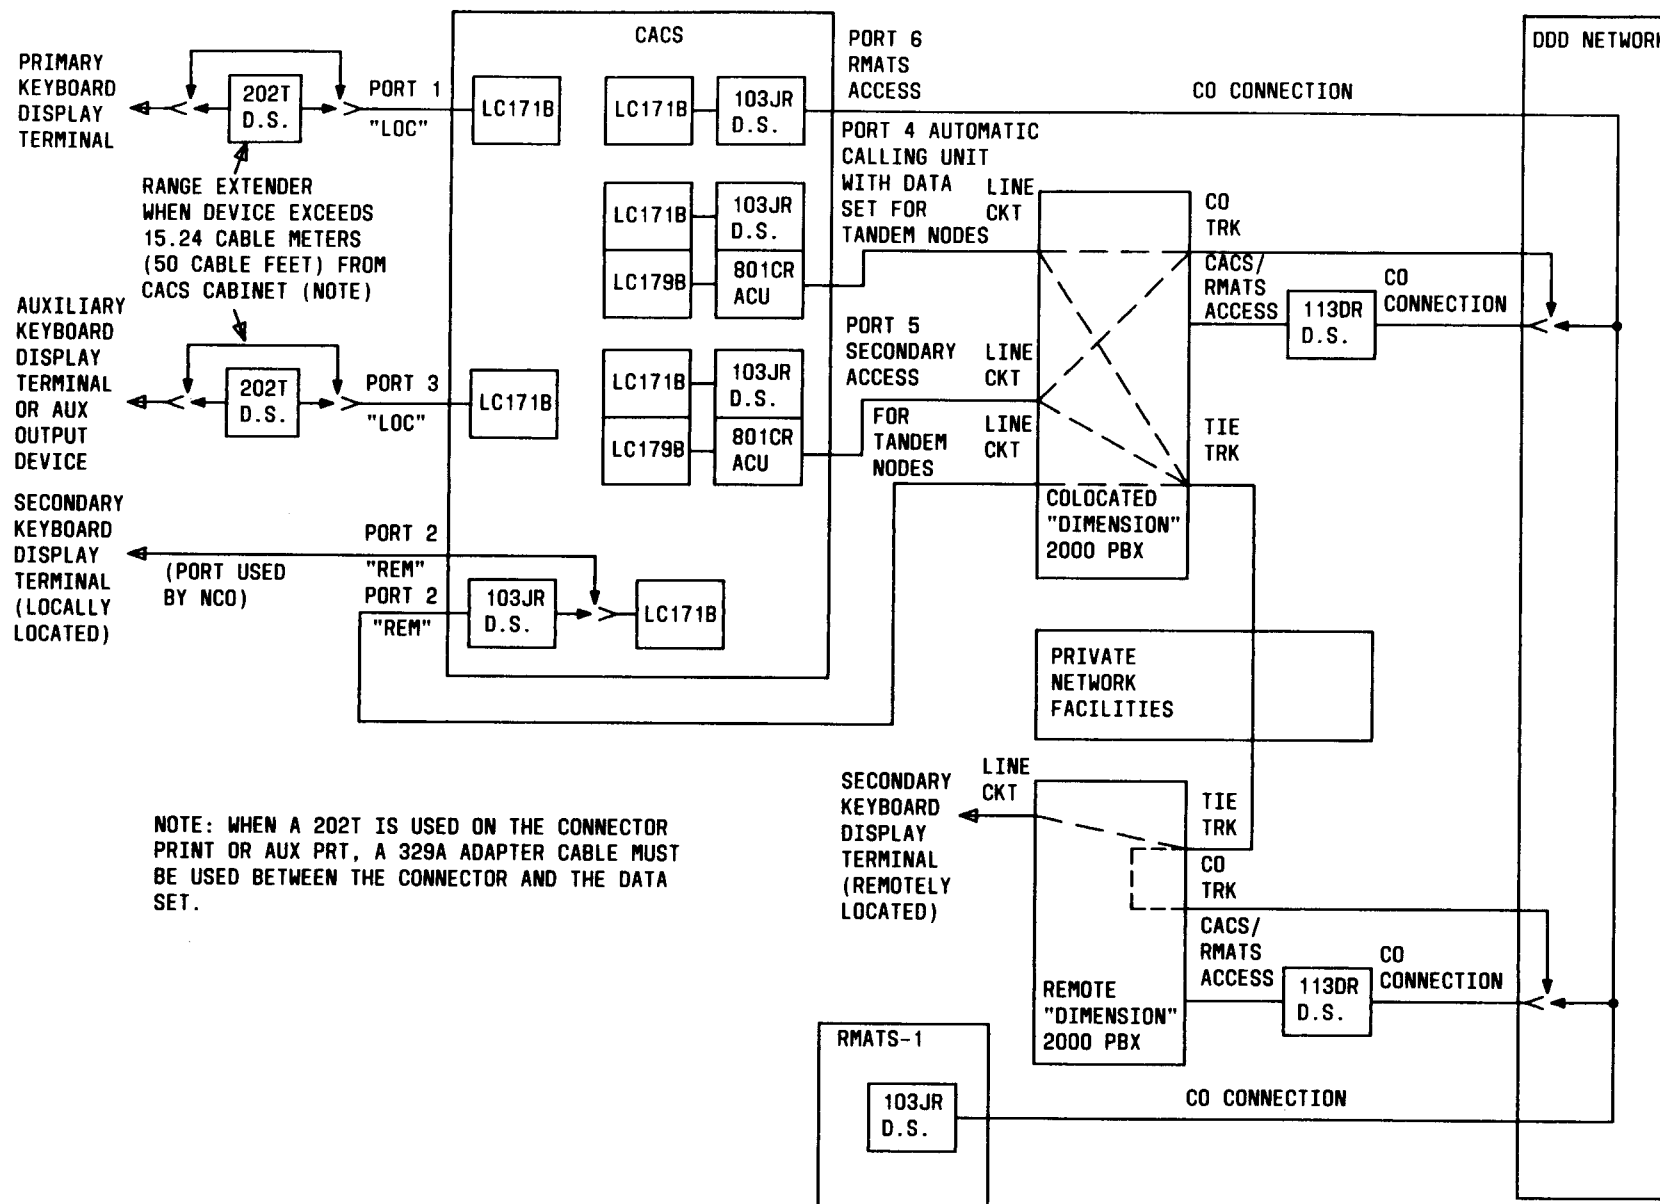

Fig. 1—Basic CACS Arrangement
2.04 The CACS has a total of six data ports (see Fig. 1). Ports 1, 4, and 6 are required as part of the basic system. Ports 2, 3, and 5 are optional. These ports are listed below: